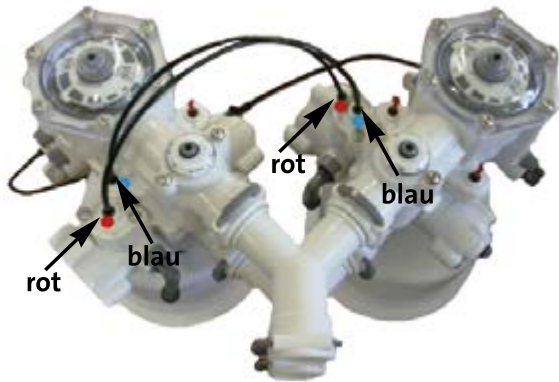

Fig. 1
2. Connect the two softener connecting pipes (see fig. 1) with the corresponding quick couplings.